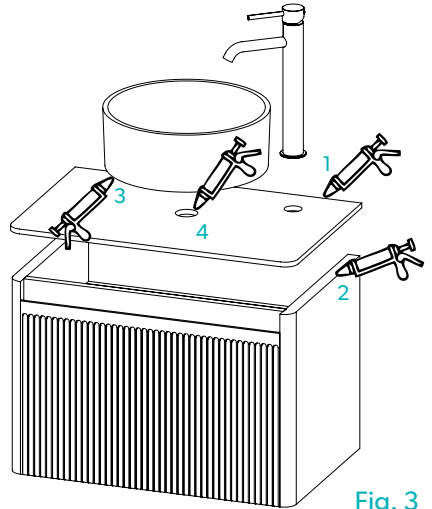

Fig. 3
10. Silicone along back edge of basin/countertop and along the back of the unit and wall as per *Fig. 3*. Allow to set fully.